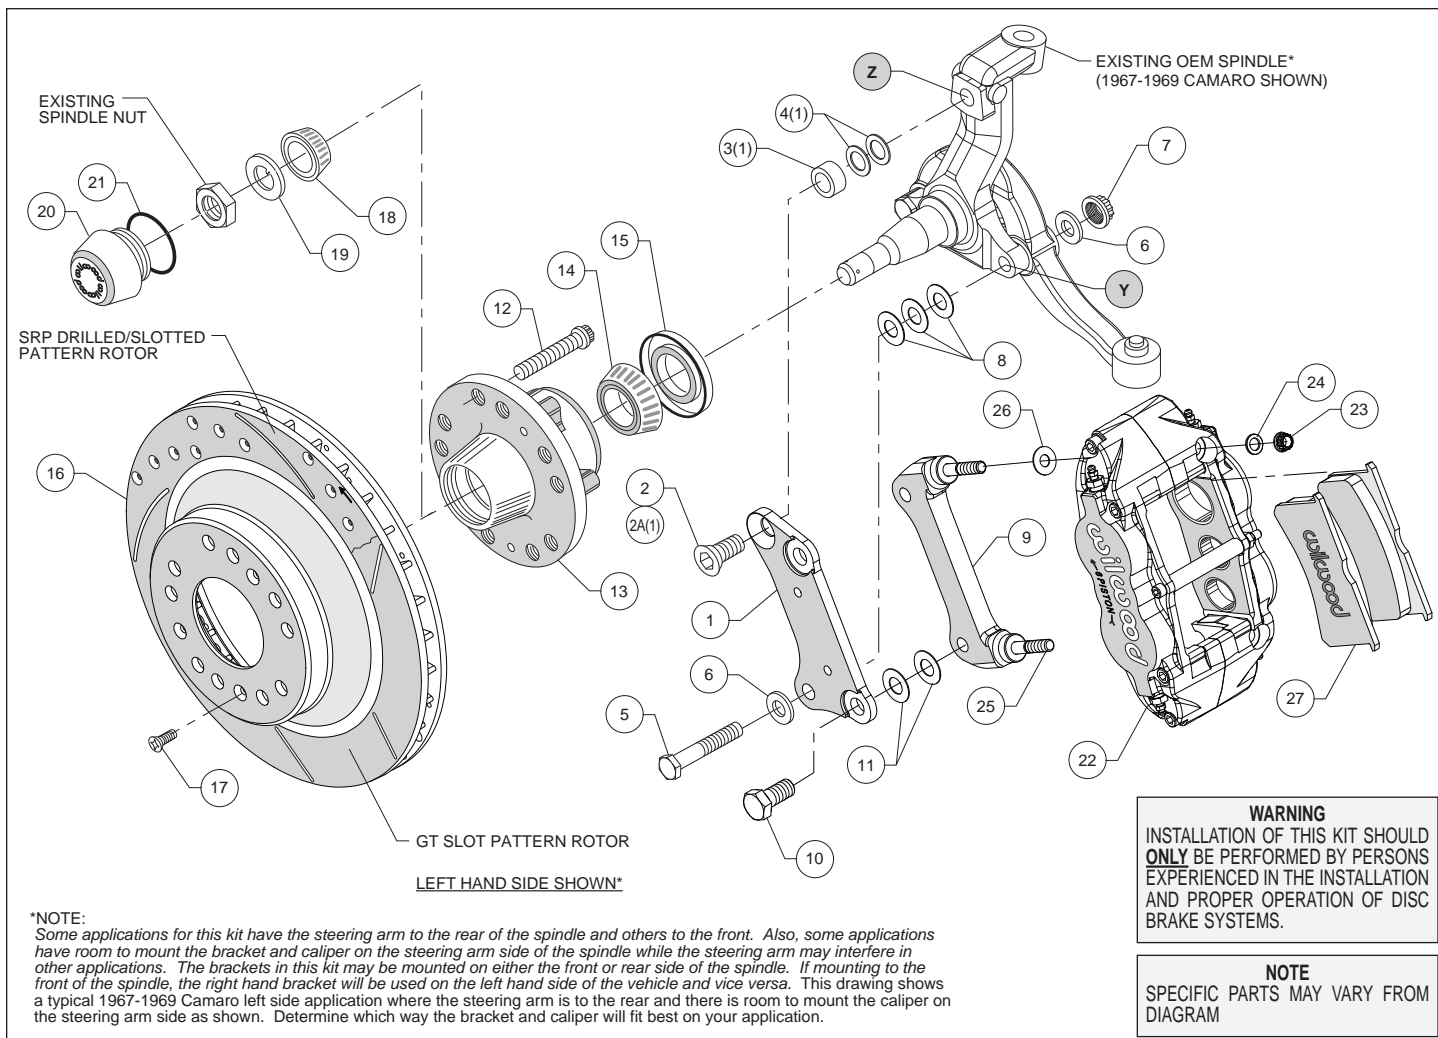
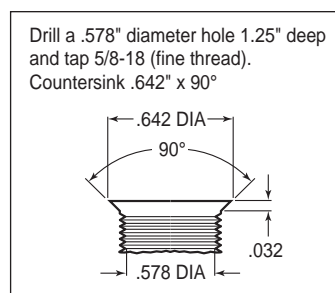

Figure 1. Typical Installation Configuration
Figure 3. Drill and Tap Detail
**Assembly Instructions** (numbers in parenthesis refer to the parts list on the preceding page, and Figure 1):
•**NOTE:** Some applications for this kit have the steering arm to the rear of the spindle and others to the front. Also, some applications have room to mount the bracket and caliper on the steering arm side of the spindle while the steering arm may interfere in other applications. The brackets in this kit may be mounted on either the front or rear side of the spindle. If mounting to the front of the spindle, the right hand bracket will be used on the left hand side of the vehicle and vice versa. Figure 1 shows a typical 1967-1969 Camaro left side application where the steering arm is to the rear and there is room to mount the caliper on the steering arm side as shown. Determine which way the bracket and caliper will fit best on your application.
•**NOTE:** Some spindles in this year range may require the following modifications (reference Figure 1 and Figure 3): Top anchor pin hole (Z) must be drilled and tapped to the dimensions as outlined in Figure 3. The lower bolt hole (Y) in the spindle used to mount the new caliper bracket, and the mating steering arm hole, must be enlarged to .50" by drilling. It is recommended these modifications be performed by a qualified machinist.
•Install wheel studs (12) into the hub (13), Photo 1. Torque to 77 ft-lb. **NOTE:** There are two five lug patterns in the hub (5 x 4.50 and 5 x 4.75). Make sure of the correct hole pattern for the correct wheel application before installing studs into hub.
•Pack the large inner bearing cone (14) with high temperature disc brake bearing grease (available from your local auto parts store) and install into the backside of the hub (13).
•Install the grease seal (15) by pressing into the backside of the hub (13), Photo 2.
•**Disc Brake Spindle Application Only:** Follow the instructions below, but instead use bolt (2A), spacer (3), and two .050" thick shims (4) in the upper bolt hole location, Figure 1.
•Orient the flat bracket (1) as shown in Figure 1 and Photo 3, and install using bottom bolt (5), washers (6), and nut (7), Figure 1. Initially place three .032" thick shims (8) between the bracket and spindle. Install the upper bolt (2 or 2A). Temporarily tighten bolts. **NOTE:** The bracket must fit squarely against the mounting surfaces on the spindle. Inspect for interference from casting irregularities,
machining ridges, burrs, etc. Temporarily install the new hub/rotor. Check that the bracket is aligned parallel to the rotor, Photo 4. If not, adjust by adding or subtracting shims (8) on the lower bolt between the bracket and spindle, Figure 1. Once the bracket alignment is correct, remove the upper bolt (2 or 2A), apply red *Loctite*® 271 to the bolt threads, and torque to 120 ft-lb. Torque the lower lock nut to 65 ft-lb.
- The radial mount caliper bracket (9) should initially be installed with clean, dry threads on the mounting bolts. Orient the bracket as shown in Figure 1 and Photo 5, and install using bolts (10). Initially place two .029 thick shims (11) on each bolt between the two brackets, Figure 1. Temporarily tighten the mounting bolts. Later, after the caliper alignment has been checked, the mount bolts will be secured using red *Loctite*® 271.
- Final install the hat/rotor (16) onto the hub (13), taking care to align the small countersunk holes in the hat with the small threaded holes in the hub. **NOTE:** *The hat must fit flush against the hub face or excessive rotor run out may result.* Install three flat head screws (17) through the small holes in the hat (16), Photo 7, and torque to 85 in-lb.
- NOTE:** *This kit contains distinct right and left hand calipers that must be mounted in a specific direction, as described below.* Lubricate the caliper mounting studs (25) with lightweight oil. Initially place one .035" thick shim (26) on each stud between the caliper and the bracket, as shown in Figure 1 and Photo 8. Mount the caliper (22) onto the bracket (9) using lock nuts (23) and washers (24), Figure 1. Ensure that the caliper is mounted so the largest pistons are at the rotor exit end of the caliper, in relation to the direction of rotor rotation. Temporarily tighten the lock nuts. The rotor should be centered in the caliper, Photo 9. If not, adjust by adding or subtracting shims (11) between the flat bracket (1) and the caliper bracket (9). Always use the same amount of shims on each of the two mounting bolts. Once the caliper alignment is correct, remove the bracket mounting bolts one at a time, apply red *Loctite*® 271 to the threads, and torque to 77 ft-lb.